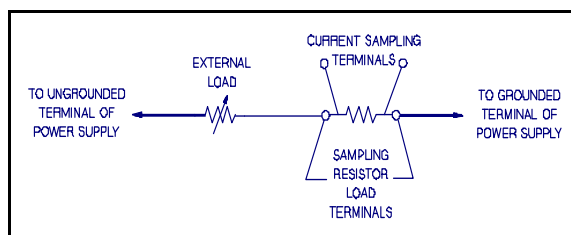

Figure A-3. Current Sampling Resistor Connections
**Output Current Measurement.** For accurate output current measurements, a current sampling resistor should be inserted between the load and the output of the supply. To simplify grounding problems, one end of this sampling resistor should be connected to the same output terminal of the supply which will be shorted to ground. An accurate voltmeter is then placed across the sampling resistor and the output current is calculated by dividing the voltage across the sampling resistor by its ohmic value. The total resistance of the series combination should be equal to the full load resistance as determined in the preceding paragraphs. Of course, if the value of the sampling resistor is very low when compared to the full load resistance, the value of the sampling resistor may be ignored. The meter shunt recommended in Table A-1, for example, has a resistance of only  $100 \text{ m}\Omega$  and can be neglected when calculating the load resistance of the supply. Figure A-3 shows a four terminal meter shunt. The load current through a shunt must be fed from the extremes of the wire leading to the resistor while the sampling connections are made as close as possible to the resistance portion itself.